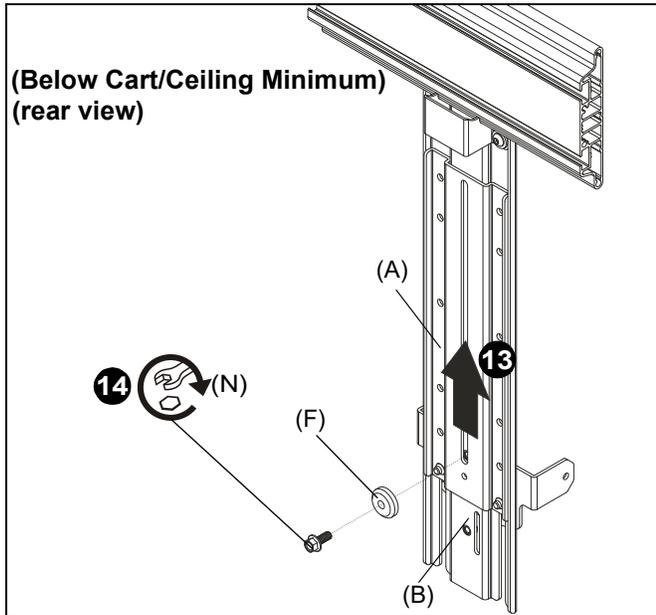

Figure 12
13. (For **minimum extension**) Slide upright bracket (A) behind main bracket (B). (See Figure 12)
14. (For **minimum extension**) Use 1/4-20 x 5/8" hex head flange bolt (N) and center washer (F) to secure upright bracket (A) to main bracket (B). (See Figure 12)